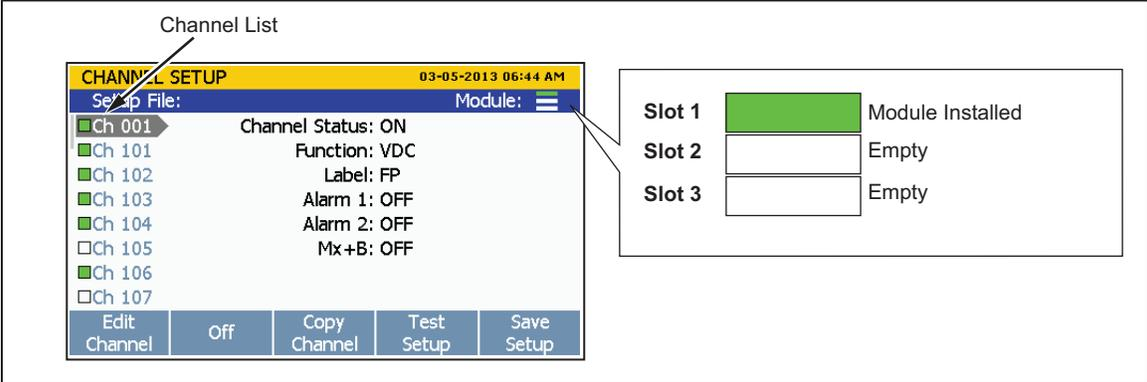

Figure 2-5. Module Indicator Example
- Verify that the module indicator appears green on the main screen (see Figure 2-5).